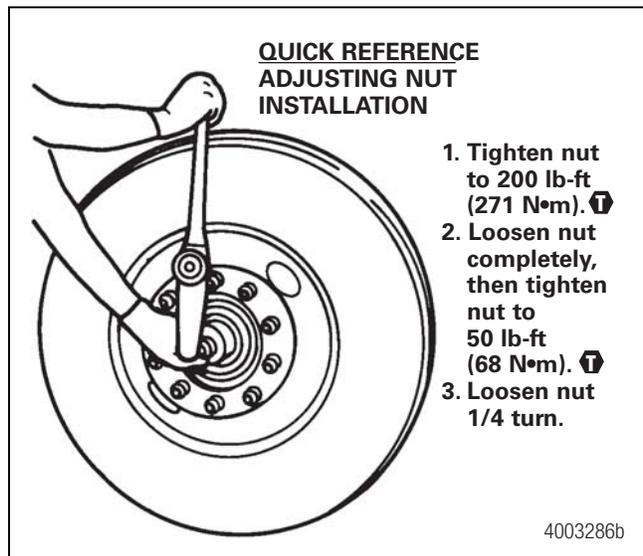

Figure 10.5
1. Install the adjusting nut so that the pin on the nut faces away from the wheel-end equipment. Tighten the nut to 200 lb-ft (271 N•m) while rotating the wheel end in both directions. Figure 10.5.